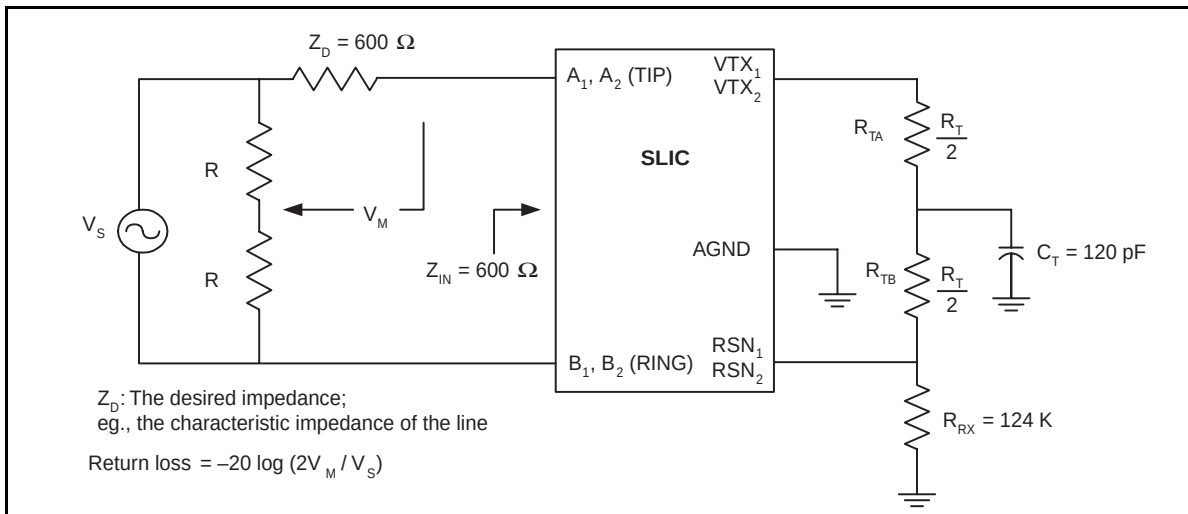

Figure 6 - Two-Wire Return Loss Test Circuit
- Group delay can be greatly reduced by using a Z_T network such as that shown in Figure 6. The network reduces the group delay to less than 2 μ s and increases 2WRL. The effect of group delay on linecard performance also may be compensated by synthesizing complex impedance with the QLSLAC™ device.